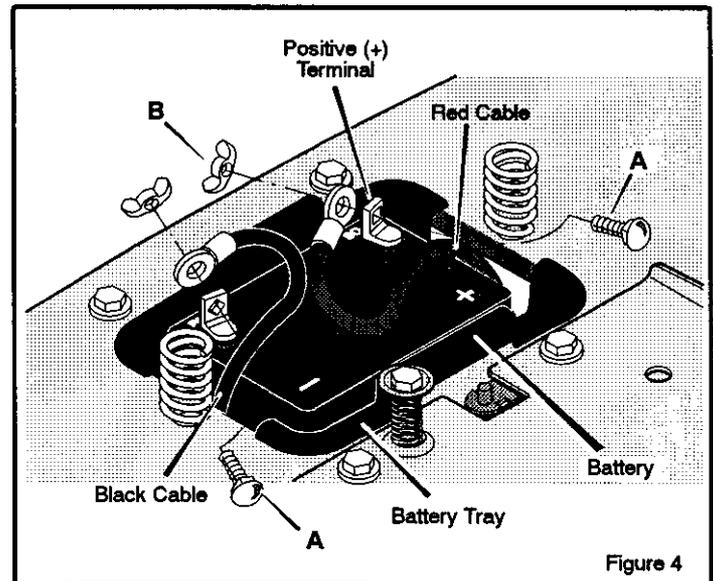

Figure 4
1. Check the top of the battery for the location of the battery date (Figure 4).
2. Fasten the red cable to the positive (+) terminal with the fasteners as shown (Figure 4).